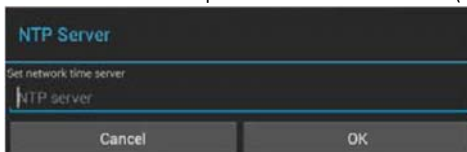

FIG. 81 NTP Server window
2. Press **Custom** to open the NTP Server window (FIG. 81):